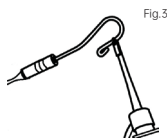

Fig.3
3) Make the lip hook touch the bent section of the file clip (Fig.3), the screen will display "OVER" (as show in Fig.4 c), otherwise, it means the file clip or the measuring wire is damaged, and should be replaced.